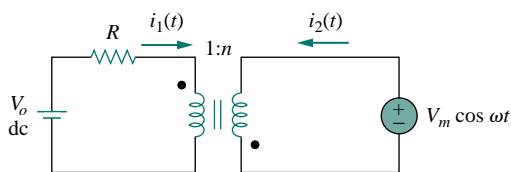

Figure 13.98 For Prob. 13.31.
- 13.31** In the ideal transformer circuit of Fig. 13.98, find $i_1(t)$ and $i_2(t)$.